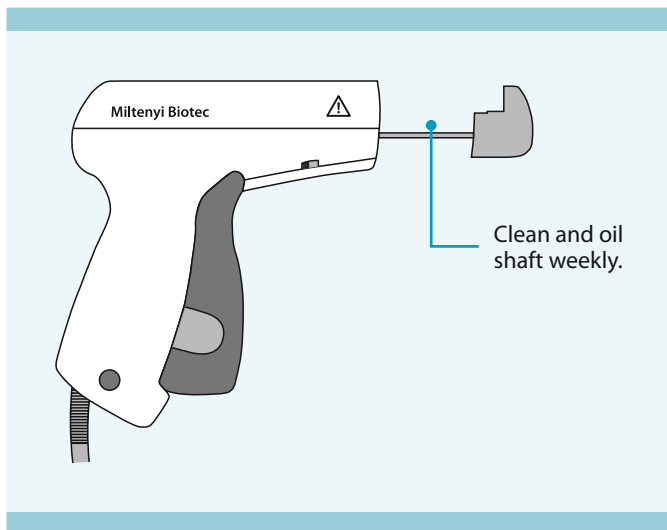

Figure 4.3: Pulled out electrode
2. First push the electrode inward and then pull out the electrode (see Figure 4.3).